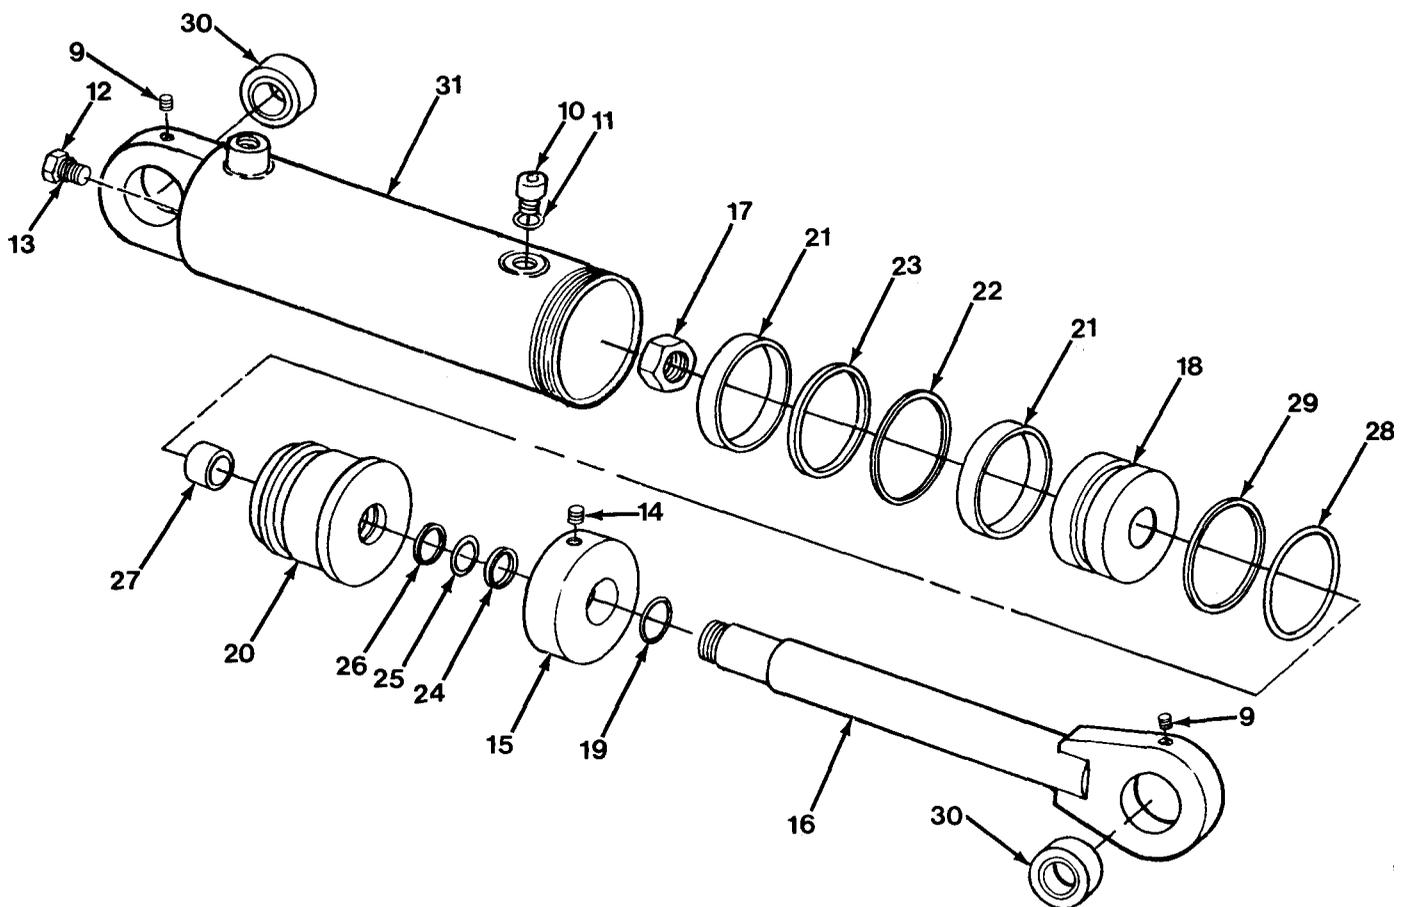

Figure 13-2
1. Install O-ring (26), back-up ring (25) in sleeve (20, Figure 13-2).
2. Install rod wiper (24) in top of sleeve (20) with lip toward outside.
3. Install sleeve wear ring (27) through groove end of sleeve (20).
4. Install back-up ring (29) and O-ring (28) on sleeve (20).